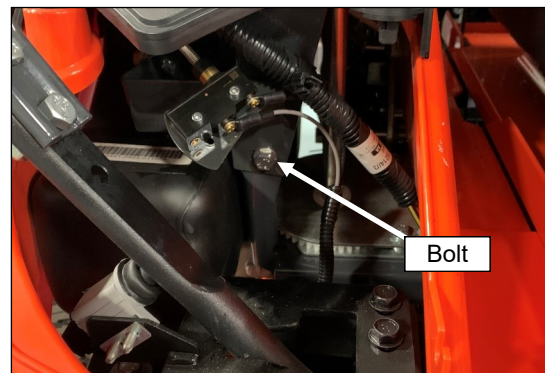

Fig. 7.6 (Install Switch Bracket)
- 7.6 Remove the bolt shown in figure 7.6 and re-install with the switch bracket so that the spring loaded switch rod will be contacted by the throttle control lever. Adjust the bracket and switch so that when the throttle control lever is beyond 3/4 throttle the switch is engaged. The switch can be rotated on the bracket and the bracket can also be rotated where it mounts to the vehicle.